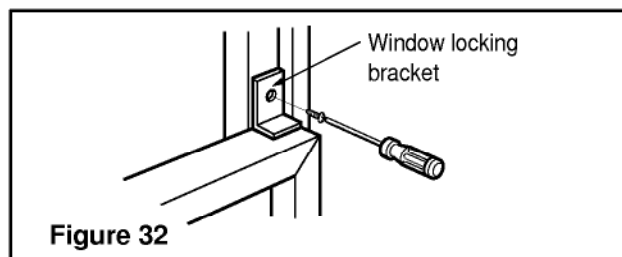

Figure 32
9. Attach the Window locking bracket with a screw (Type C). (See Fig. 32)